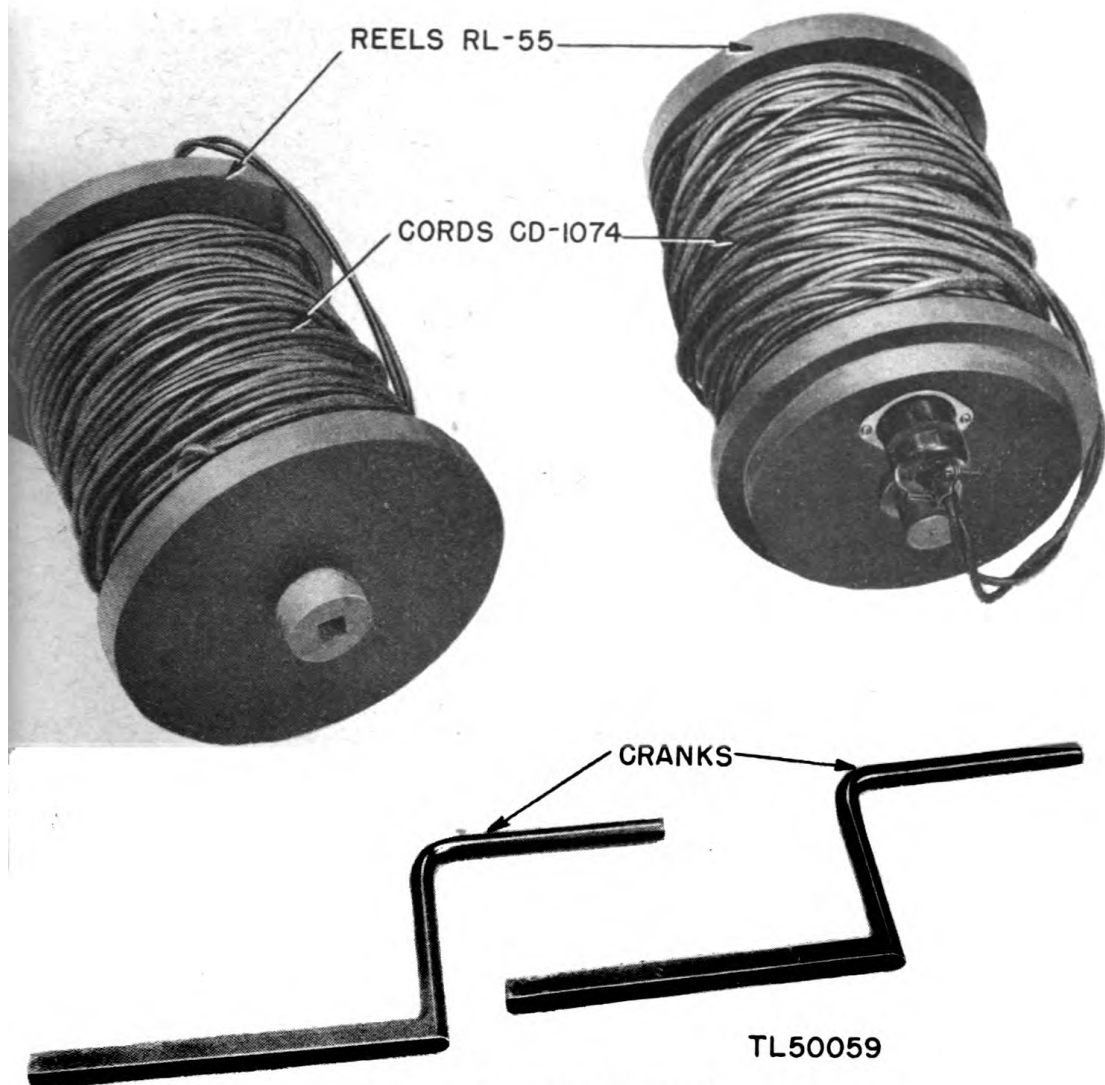

Figure 7. Reels RL-55
10. REELS RL-55 (See figure 7).
13. CORDS CD-1074, LOUDSPEAKER EXTENSIONS (See figure 7).